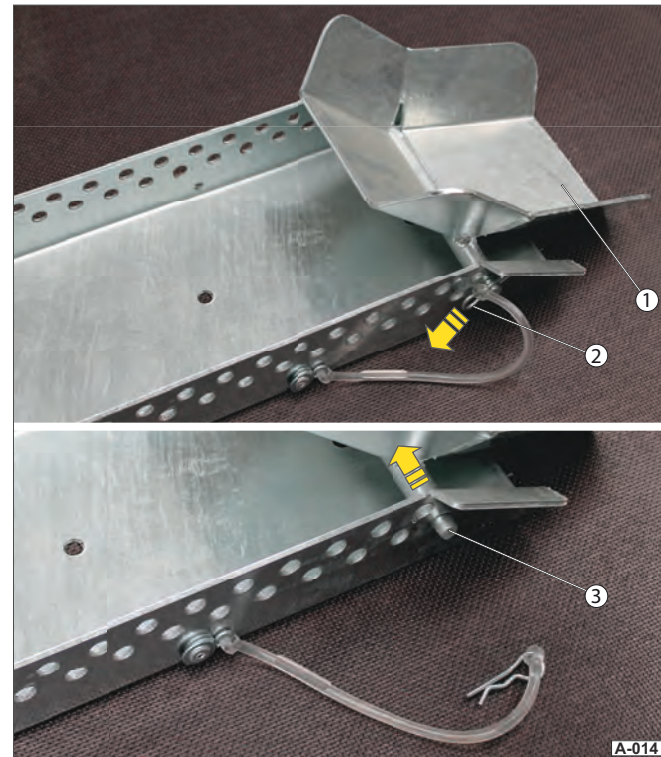

Fig. 14 Unlocking rocker
- ▶ Remove the R-clip (Fig. 14 /2) from the plug pin (Fig. 14 /3).